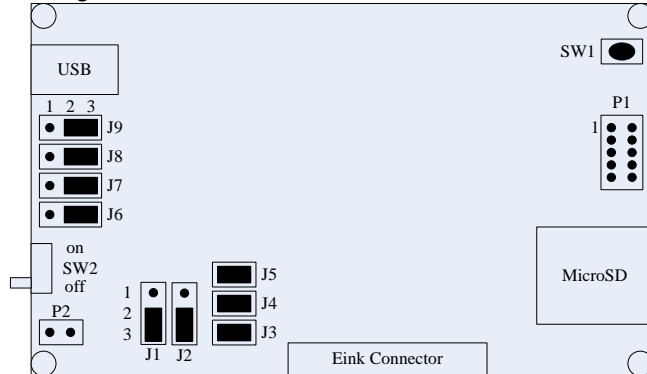

Figure 29. Correct Jumper Positions for Virtual Com
6. Disconnect USB cable, configure the jumpers as shown in Figure 29 for virtual COM.
17. It is recommended to power development board through USB as described in Figure 29 when evaluating ADXL362 DB GUI. For data logger, it is recommended to use high capacity AAA batteries or lithium thin cell to power the development board, and thus it integrates seamlessly into portable applications as shown in Figure 40.
1. USB, all kinds of functions can be supported by USB supply. When using USB supply, please make sure the jumper J2 is at 2-3 position as shown in Figure 29 (There are notes on PCB board). There is a 3V LDO ADP3338 on the board which will switch 5V input to 3V for the following circuits.